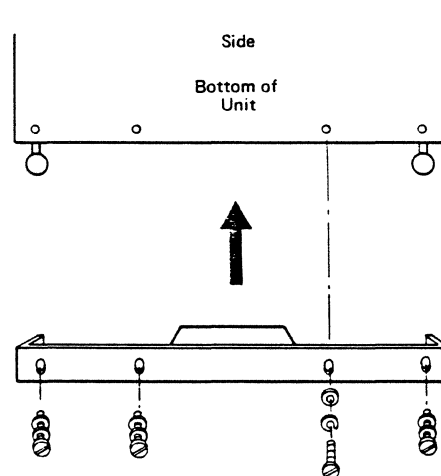

Figure 6-10. Installing the Side Ground Plate
19. Using four screws (PN 332620), four lock washers (PN 9092), and four flat washers (PN 45690), secure the ground plate while pressing the plate firmly against the ground (Figure 6-10). Tighten the screws.